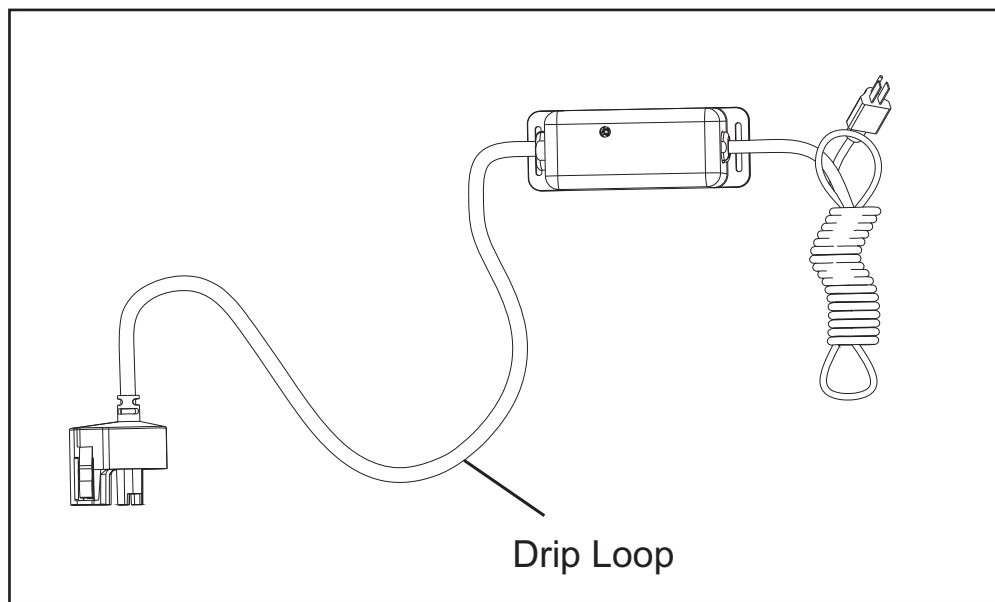

Figure 4 Drip Loop
- The controller should be mounted either above or beside the UV chamber. Always mount controller horizontally to prevent moisture from running down cordage and causing a potential fire hazard. Drip loops in all cordage connected to controller is highly recommended. Refer to Figure 4.
4. Mount the controller horizontally to the wall, near the UV chamber. Ideally place the controller above the chamber and away from any water connection point, to prevent any water from potentially leaking onto the controller by means of a leak at a connection point or a “sweating” system. Make sure you allow for a “drip-loop” as shown in Figure 4 on the UV lamp, UV sensor, and power cord, again, to prevent any water from potentially entering the controller.